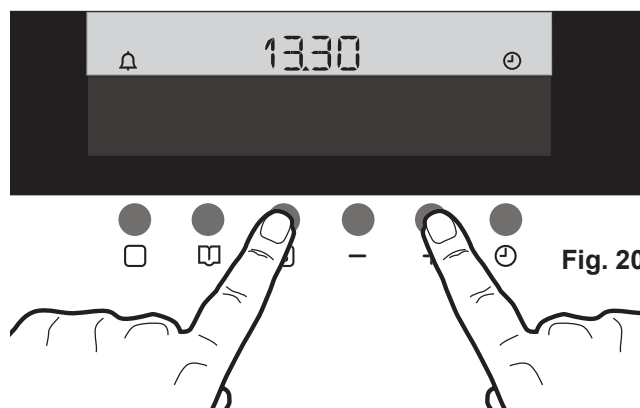

Fig. 20
1. Press button **B** and "+" at the same time for approximately 2 seconds (Fig. 20). The Electronic Control beeps once.